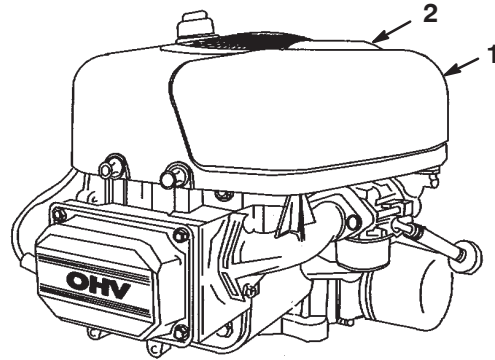

Figure 17
6. Clean around the air cleaner to prevent dirt from getting into the engine and causing damage. Pull up on the air cleaner cover handle and rotate it toward the engine (Fig. 17). Remove the air cleaner cover.